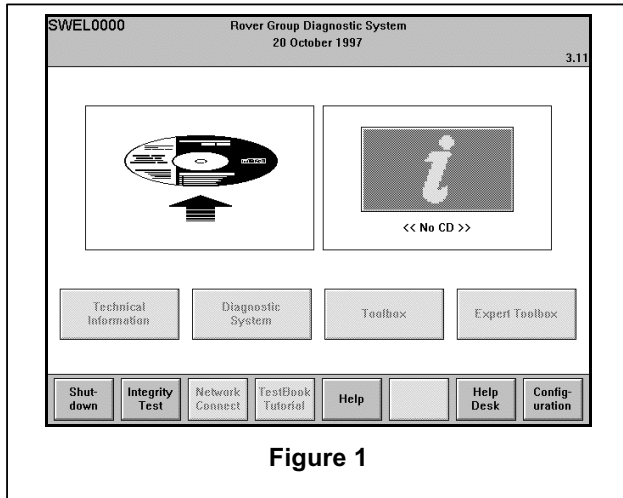
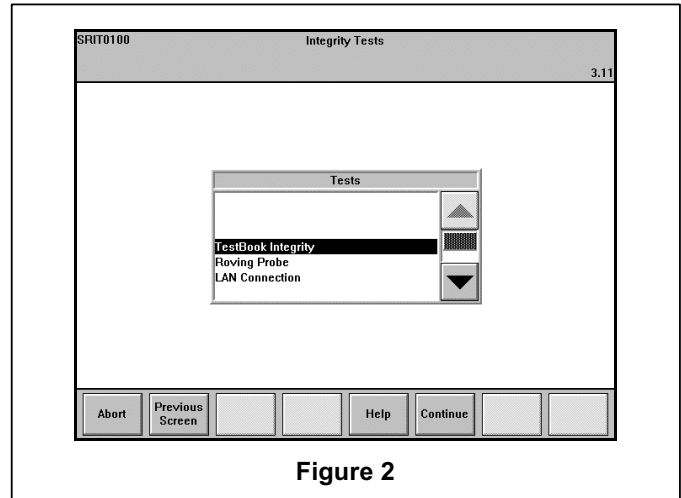

Figure 1
Figure 2
2. Choose "Integrity Test" from the Welcome Screen (Figure 1). The screen in Figure 2 will appear.